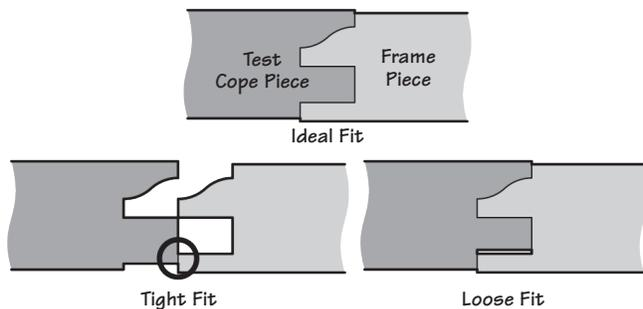

Figure 8: Testing the fit of the tongue.
7. Test the fit of the tongue with a frame piece (see **Figure 8**). If the fit is too tight, remove shims. If the fit is too loose, more shims are required. Do not make the tongue fit too tight or you risk splitting the back of the stiles.